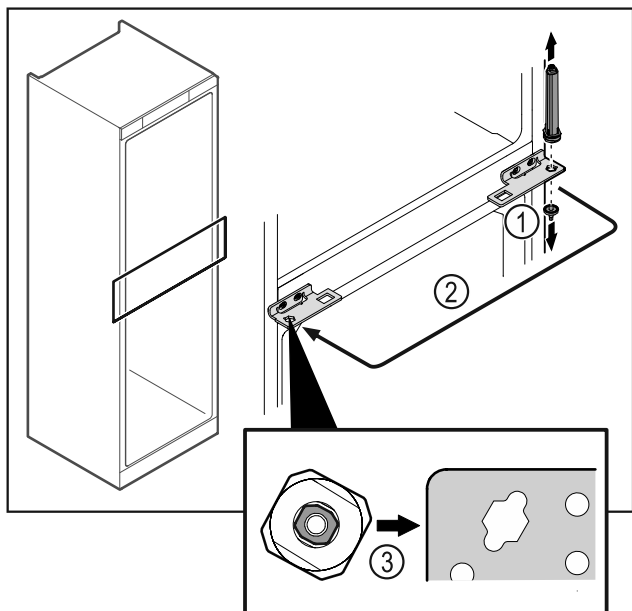

Fig. 43
- ▶ Unscrew the hinge pin Fig. 43 (1).
- ▶ Move the door closing system Fig. 43 (2).
- ▶ Make sure the pin chamfer Fig. 43 (3) faces the round hole when you put it in.